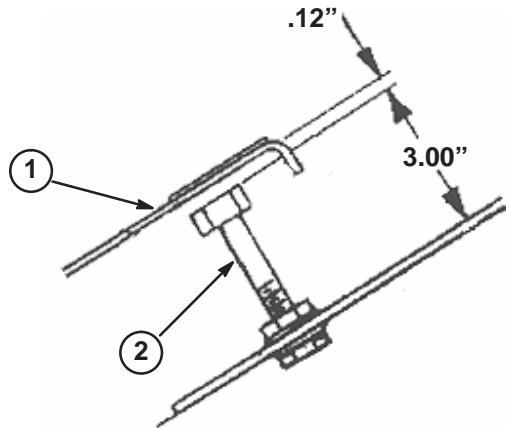

Figure 36
2. Loosen lock nuts and adjust traction pedal stop screw (Fig. 36) to a length of 3.00".